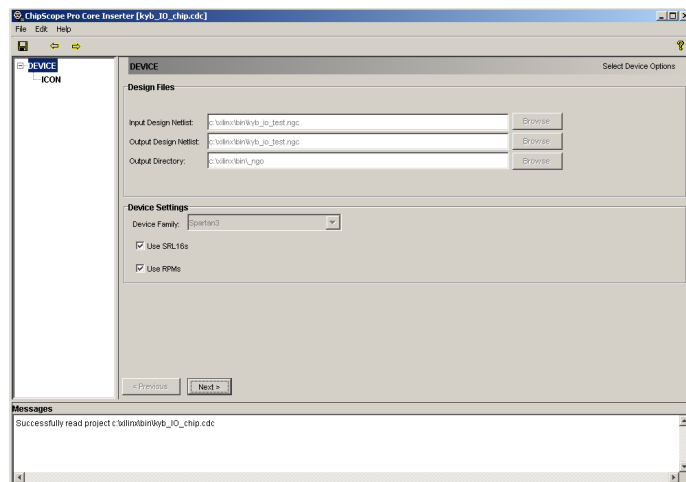

Figure 13
20. Double Click on the newly generated file to open the Chipscope pro core inserter (Figure 13). You can insert different cores into your design to probe signals and their associated timings by this tool.